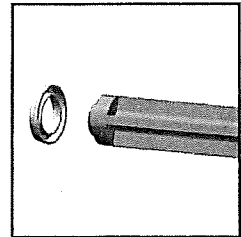

Fig. 32
7. Place new rear seal onto Service tool; grooves must fit in service tool form. (See fig 32)